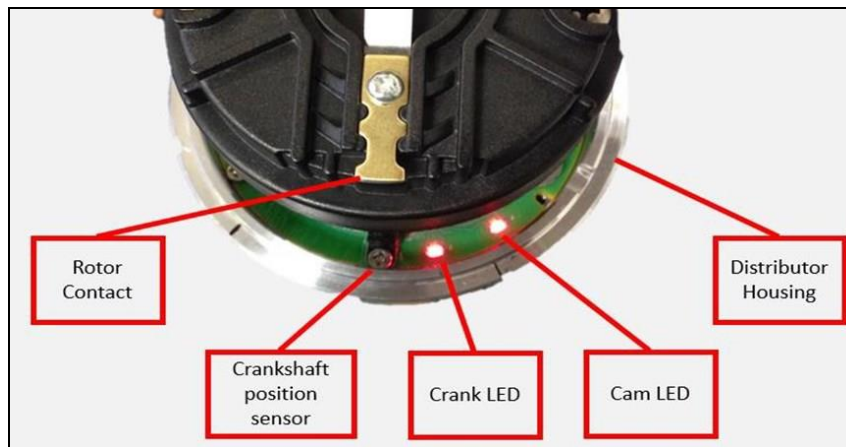

Figure 1
7. **Distributor Alignment:** There are two LED's on the distributor circuit board. These will be used to align the distributor, by indicating when the crank and cam sensors are being triggered. The crank and cam LED's are noted in **Figure 1** below.